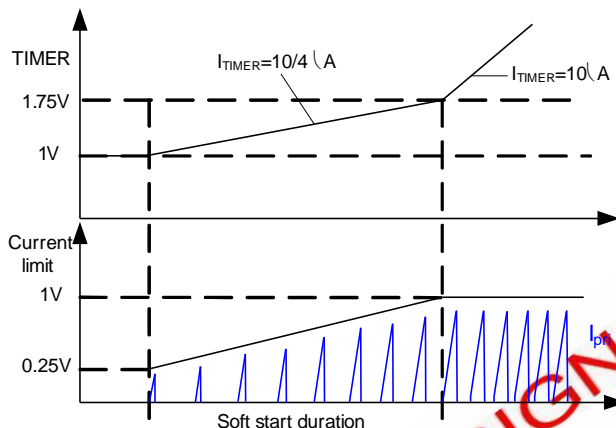

Figure 6: Soft-Start
The peak current (controlled by the TIMER voltage) gradually increases from 0.25V to 1V, as does the switching frequency, to reduce the stress on power components and to smoothly establish the output voltage as the TIMER voltage increases from 1V to 1.75V during start-up. Figure 6 shows the typical soft-start waveform. The TIMER capacitor determines the start-up duration as per equation (3).